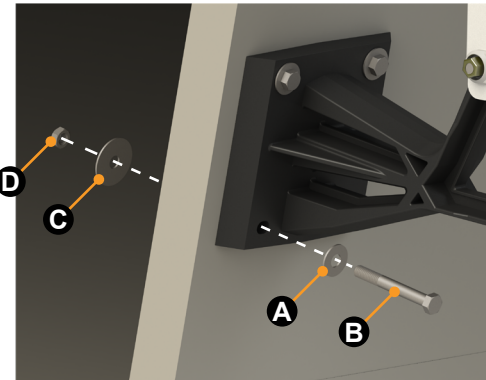

Fig.3
**NOTE:** Proper mounting bracket installation will have each screw hex head facing outside the vessel and the lock nuts facing inward from the inside surface of the transom (Fig.3).